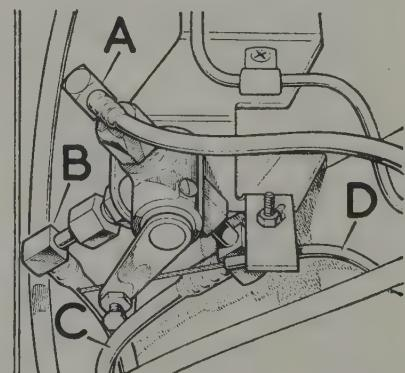

Fig. 3.12. Reserve tap fitted to early 3500 models and current 3500 S models
- 16 Fig. 3.11. shows the tank unit and reserve tap layout fitted to early 3500 S models. On early 3500 models and current 3500 S the reserve tap arrangement is as shown in Fig. 3.12.